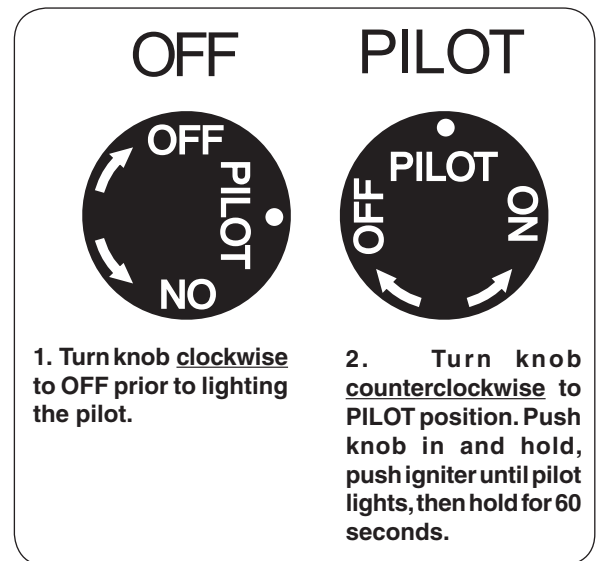

Fig. 35-1 Control knob detail (OFF, PILOT)
1. Locate the valve on the side of the unit. Push in the gas control knob slightly and turn clockwise to **OFF** (Fig. 35-1).
**Allow five (5) minutes for any gas in the unit to dissipate. IF YOU SMELL GAS, SEE STEP B ABOVE.** If you don't smell gas, go on to step 2.
2. Turn the control knob counterclockwise to **PILOT** (Fig. 35-1). Push the control knob **firmly and fully** in and hold. Push the piezo igniter button several times until the pilot lights. Continue to hold the control knob in for approximately 60 seconds after the pilot is lit, then release the knob. The pilot will remain lit.